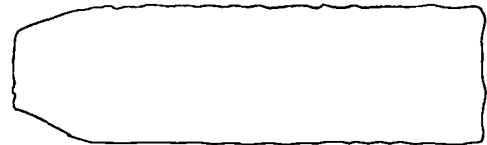

Fig. M10
4. When the envelope is as shown in Fig. M10, adjust the height of Guide Roller [2] (Refer to Fig.M3) so that the waveform looks like the one shown in Fig. M12.